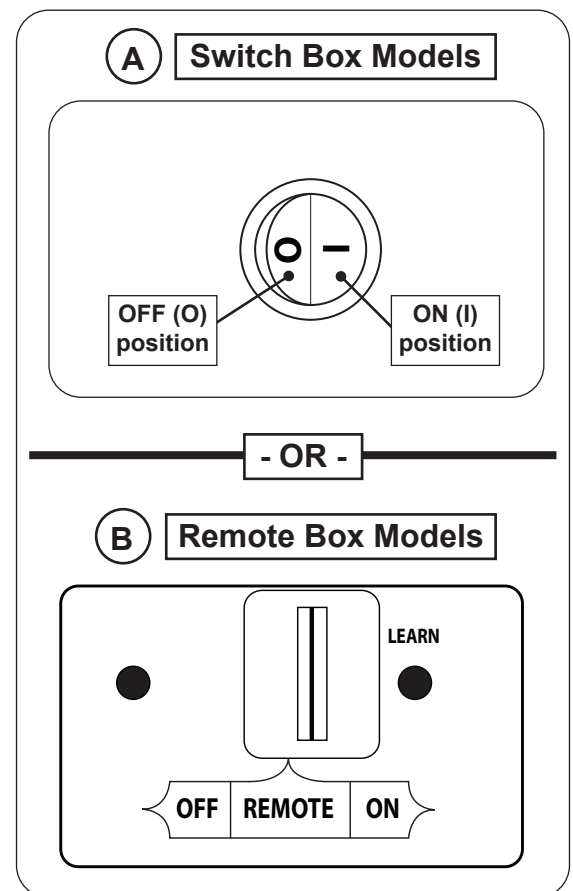

Fig. 27-1 Manual operation
2. Locate the ON/OFF switch at the front of the switch box and/or the 3-position switch on the remote receiver (as applicable), and press/slide to the **OFF** position(s) (see Fig. 27-1).
3. **Switch Box Models:** Press the ON/OFF switch to the **ON (I)** position (Fig. 27-1, A).
Remote Box Models: Slide the 3-position switch to **ON** (Fig. 27-1, B).